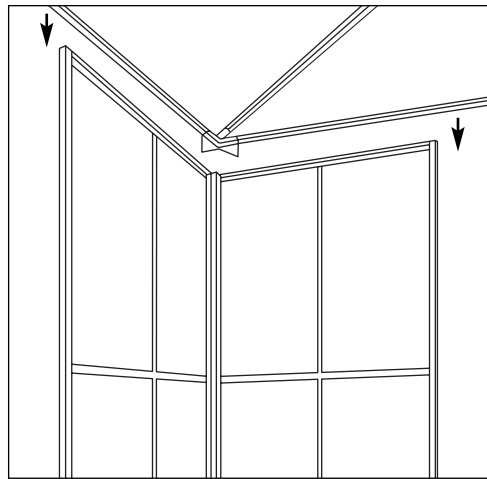

Fig. 13
- Lift the canopy (requires 2 people). Have a helper place corner supports under corners of roof structure. (Fig. 13)